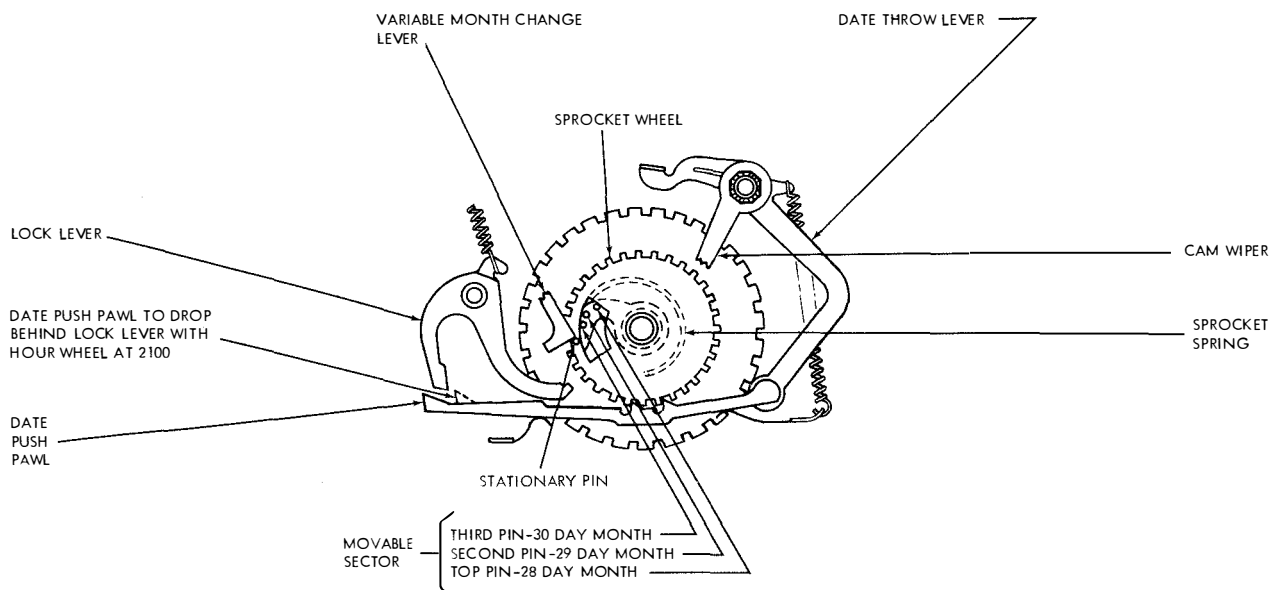

Figure 7-19. Variable Month Change Lever
(5) DATE CAM WIPER ARM. (See figure 7-19.)
(11) VARIABLE MONTH CHANGE LEVER. (See figure 7-19.)—The variable month change lever should engage the top pin on the movable sector in a 28-day month, the second pin in a 29-day month and the third pin in a 30-day month. In each condition the lever should clear the preceding pin. To adjust, form the cam follower arms on the variable month change lever assembly.